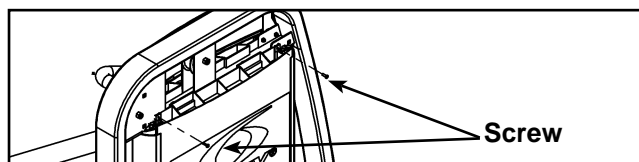

Figure 7
- G. Remove the top two screws securing the back shroud. See Figure 7.